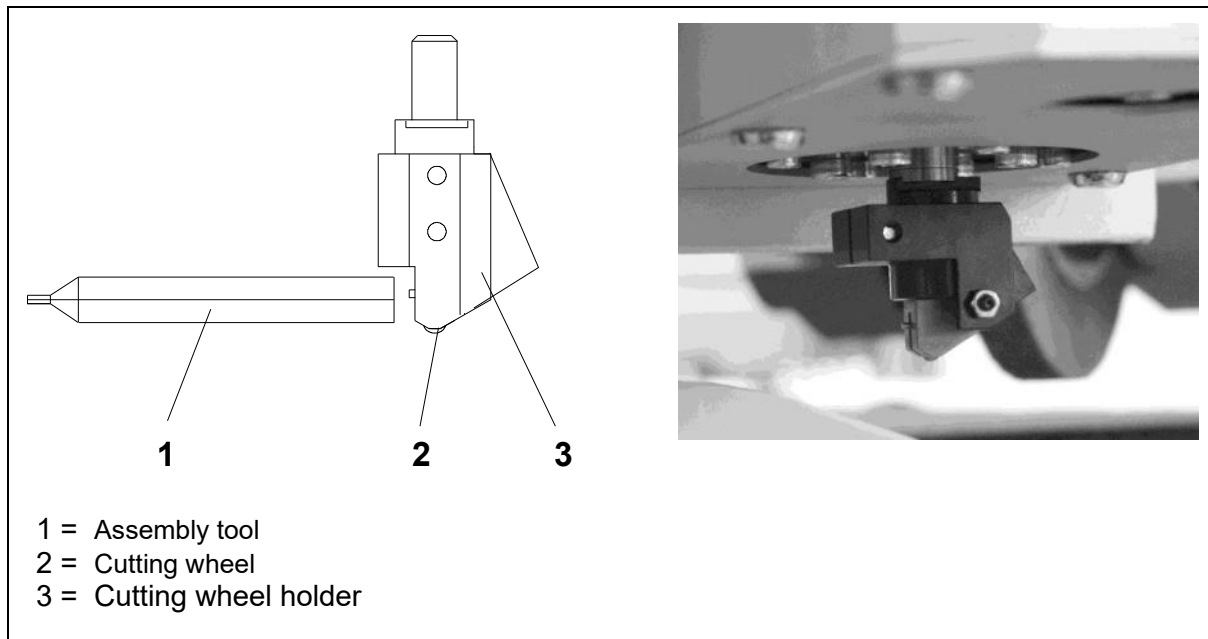

Fig. 8.3: Assembly aid for cutting wheel change
- Push the quick change application back into the cutting wheel holder as far as it will go (Fig. 8.3)